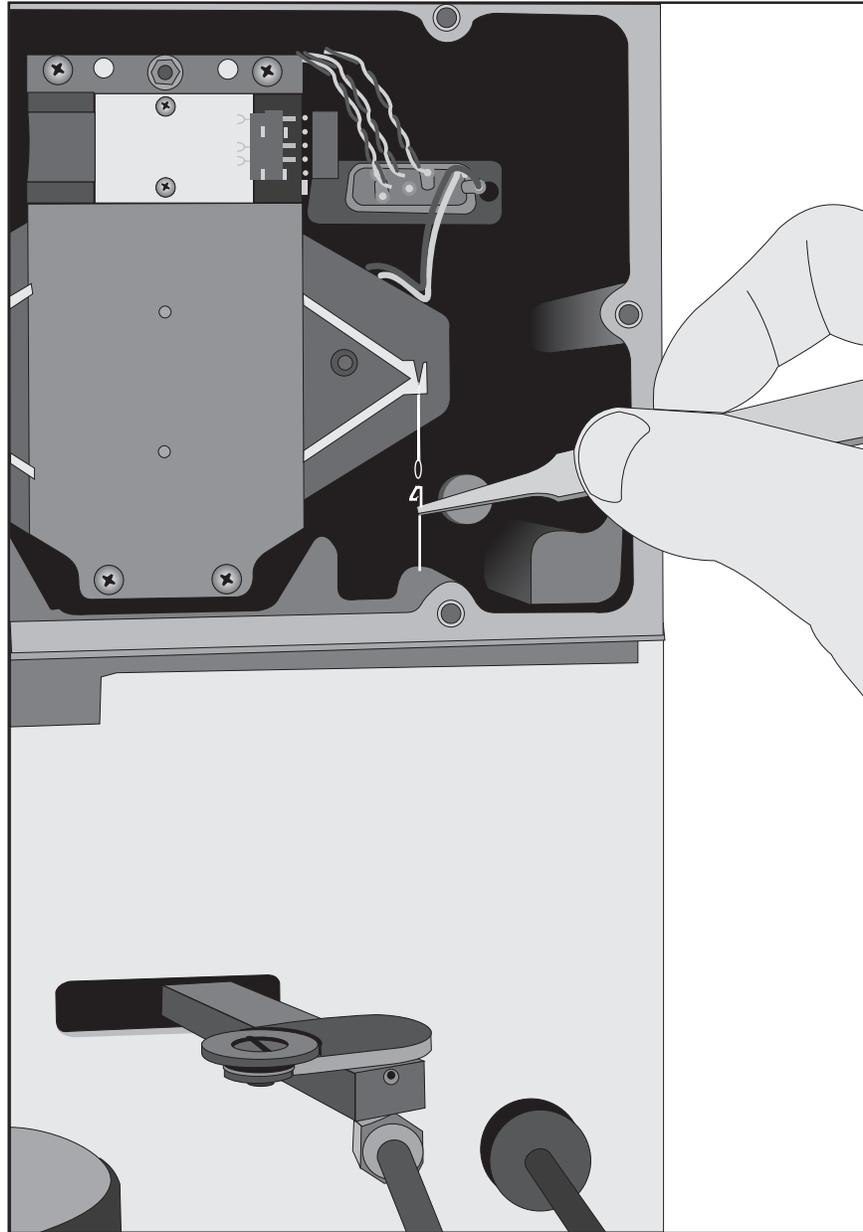

Figure 2.14
6. Thread the hang-down wire up through the hang-down tube into the balance chamber, and hook the top of the wire over the top of the tube (see Figure 2.14 on the next page).